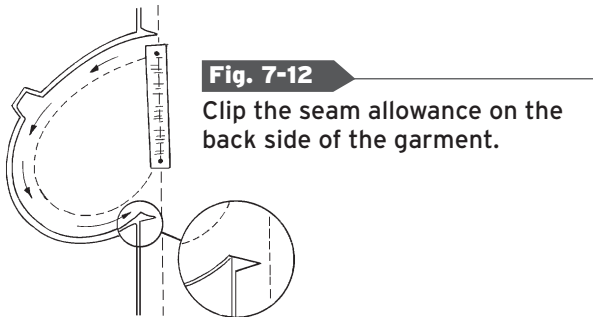

Fig. 7-12
4. Clip the seam allowance on the back side of the garment at the top and bottom of the pocket. Clip to, but not through, the stitching. (Fig. 7-12)